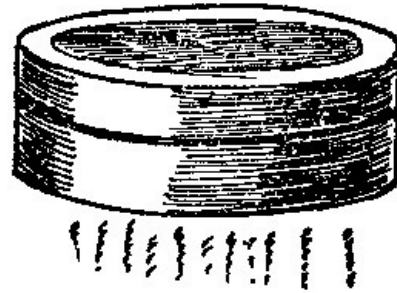

Fig. 20.
**48. Sifter for Iron Filings.** Fig. 20. In making magnetic figures with iron filings, it is an advantage to have the particles of iron fairly small and uniform in size. A simple sifter may be made by pricking holes in the bottom of a pasteboard pill-box with a pin. The sifter may be put away with the filings in it, provided you turn it upside down.